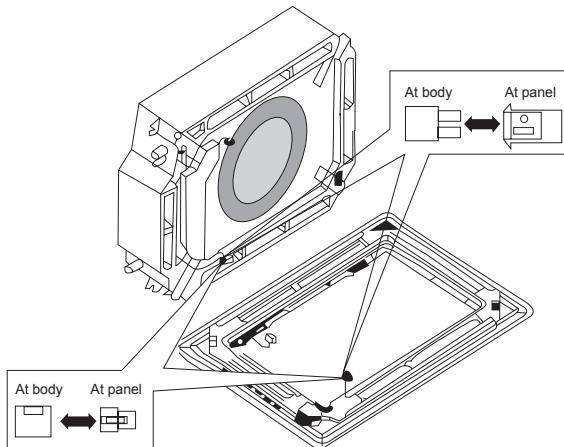

Fig.31
- 2) Connect the joints for swing flap motor lead wire installed on the panel. (Refer to Fig.31)